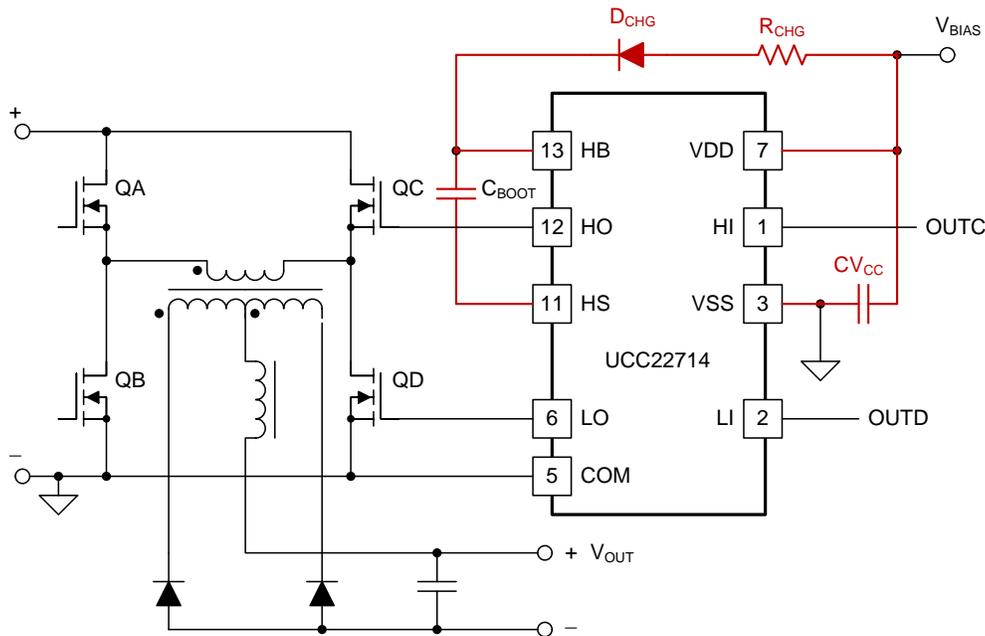

Figure 6. Simplified Gate Driver Schematic
If the designer wishes to use a gate drive device, such as the UCC27714, then some additional testing must be done to make sure that the bootstrap capacitor ( $C_{BOOT}$  in Figure 6) is fully charged by the short OUTD pulse. If this is not done, then the next OUTC pulse may not be delivered to the gate of QC. If this happens, QC will not be turned on and current will flow through its body diode instead of its channel. At the start of the next  $T_{ON}$  interval QD is turned on again. The resulting reverse recovery current in the body diode of QC can appear as a shoot through current and QC and QD may fail short.
- Optimize the layout to minimize parasitic impedances in the charging paths outlined in red in Figure 6.